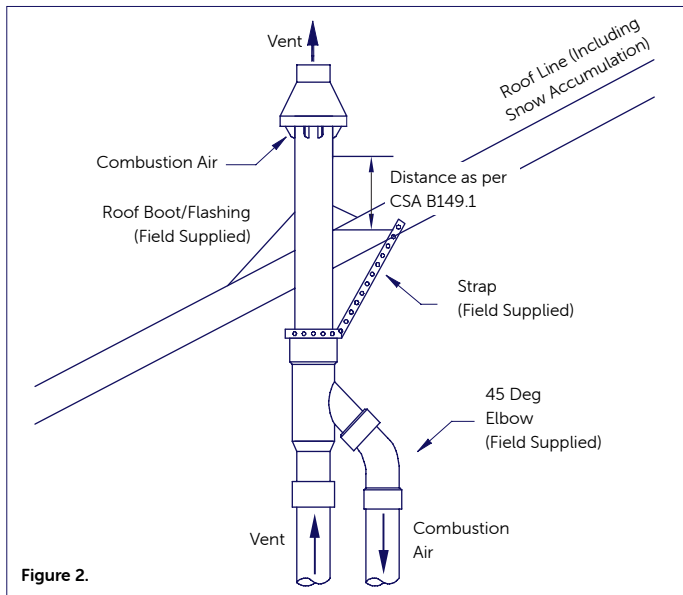

Figure 2.
- Secure the assembly to the structure as shown in Figure 1 or Figure 2, using field supplied support/weatherproofing products.
- Ensure that the termination height is above the roof surface, including anticipated snow levels as shown in Figure 2 for vertical termination.
- Cement the furnace combustion air and vent pipes to the concentric vent termination assembly. See Figure 1 or Figure 2.